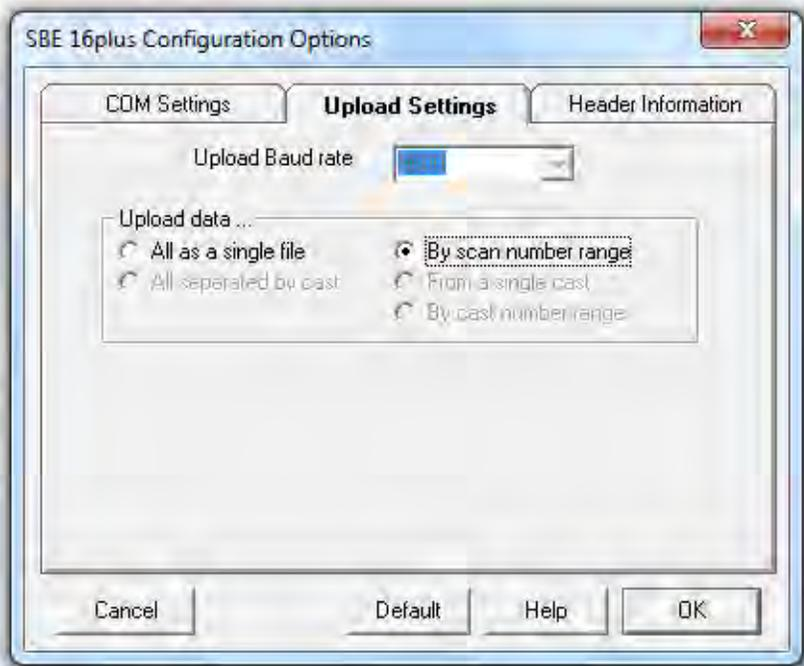

Figure 4. Image of Upload Settings tab within the SBE 16plus Configuration Options box.
4. In the **Upload Settings** tab (Figure 4), confirm: